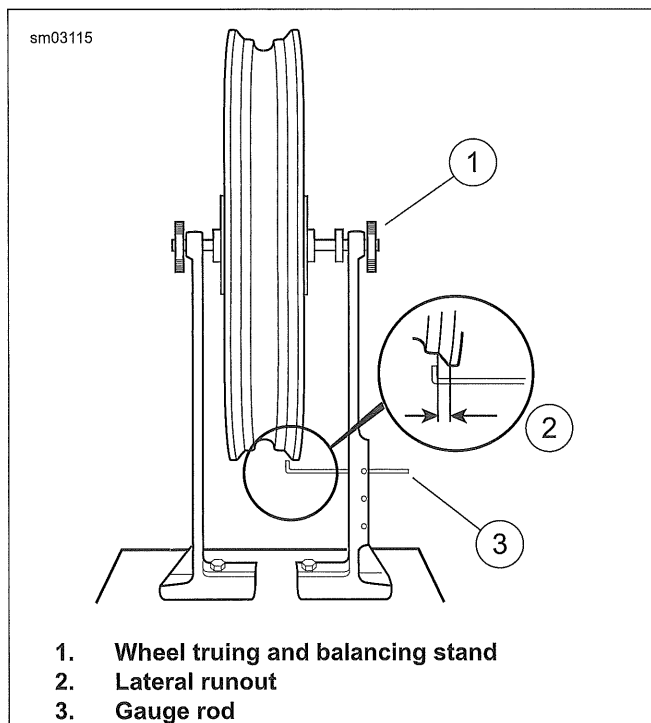

Figure 3-15. Checking Lateral Runout
1. See Figure 3-15. Mount wheel in WHEEL TRUING STAND (PART NUMBER: HD-99500-80).